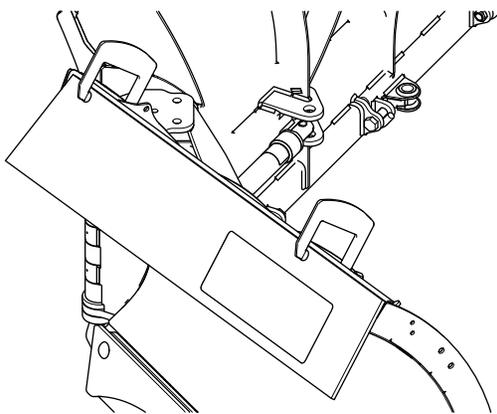

Figure 4
- Clamp the belting to the top edge of the plow blades (Figure 4).